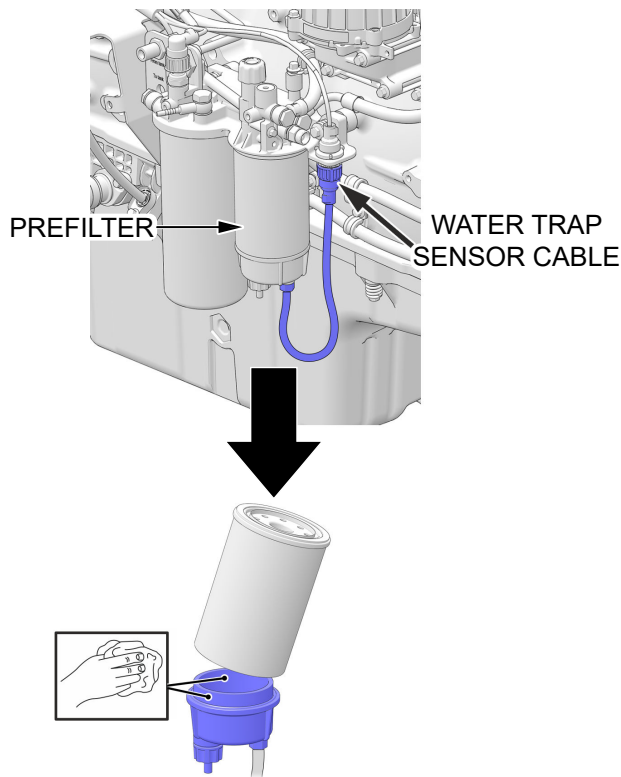

Figure 58. Fuel Prefilter Replacement
1. Remove the **cable** (Figure 58) from the **water trap sensor**.
2. Remove the **prefilter** (Figure 58) from the filter housing. Collect any spilled fuel in a suitable container.